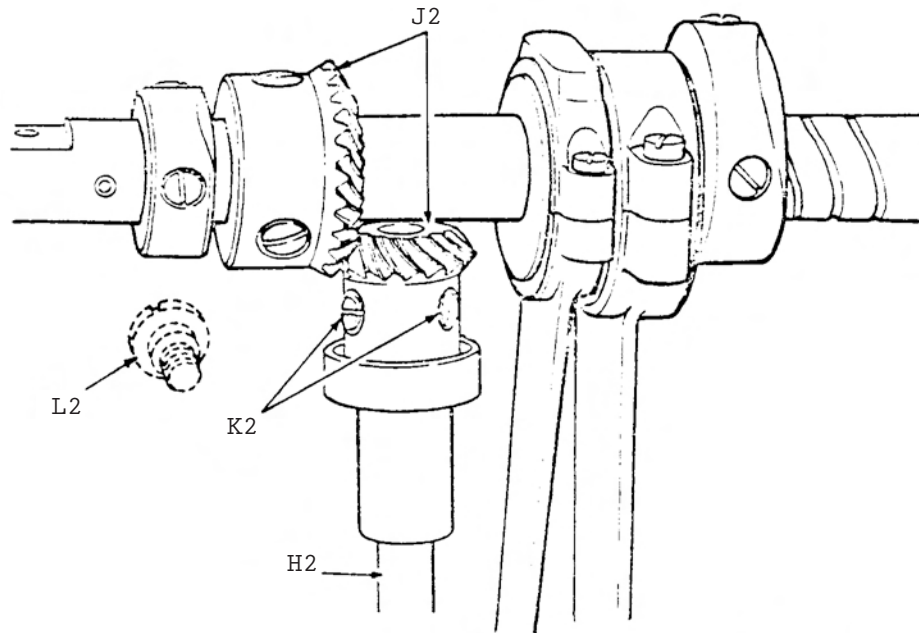

Fig. 19
TO REMOVE AND REPLACE THE UPRIGHT ARM SHAFT (See Fig. 19)
2. Insert upright arm shaft up through upper bevel gear, as shown in Fig. 19.